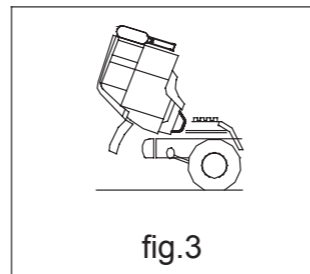

fig.3
(1) Before tilting , remove all the loose articles from the cab.
(2) Before tilting , open the radiator cover first (fig3)